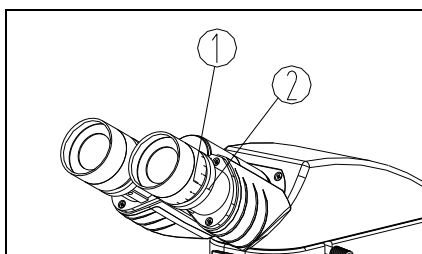

Fig. 13
Align the scale "0" of diopter adjustment ring (1) with the scale (2), and then focus to get a clear image. Then observe through the other eyepiece, rotate the diopter adjustment ring until it is clear. (see Fig.13).